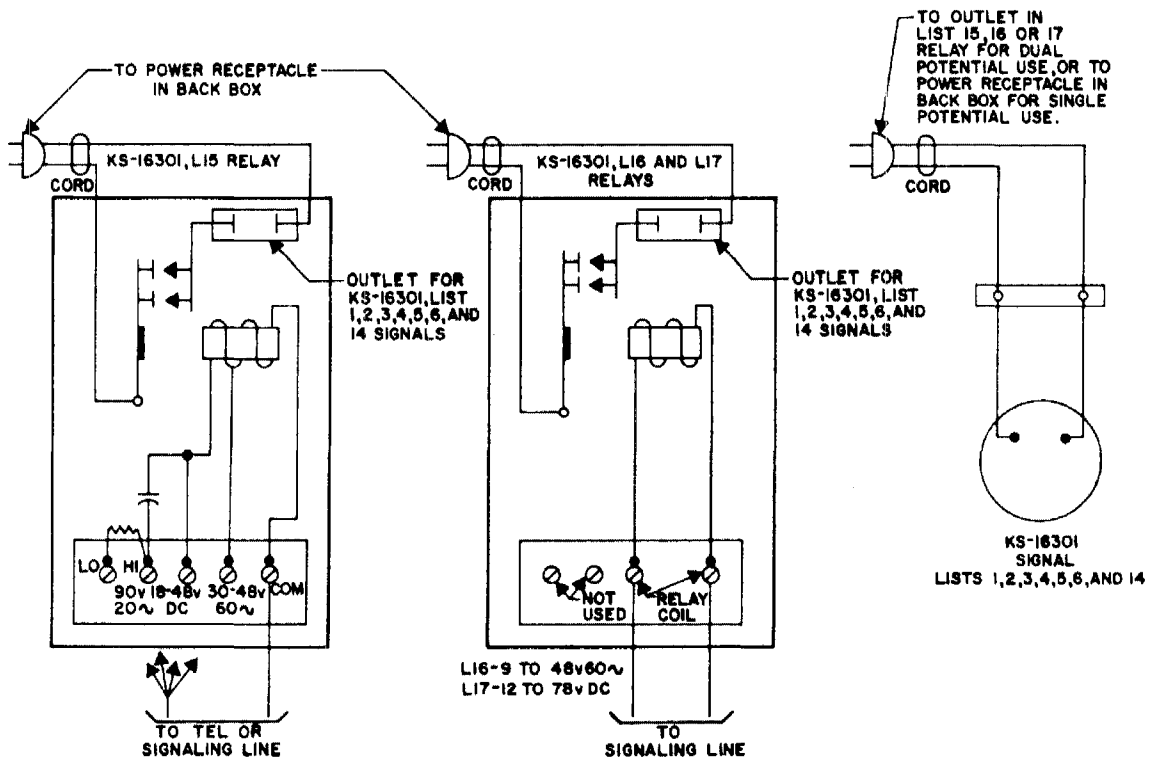

Fig. 1 - KS-16301 Signal and Relay
2.01 Connections for KS-16301 signals and relays are shown in Fig. 1.